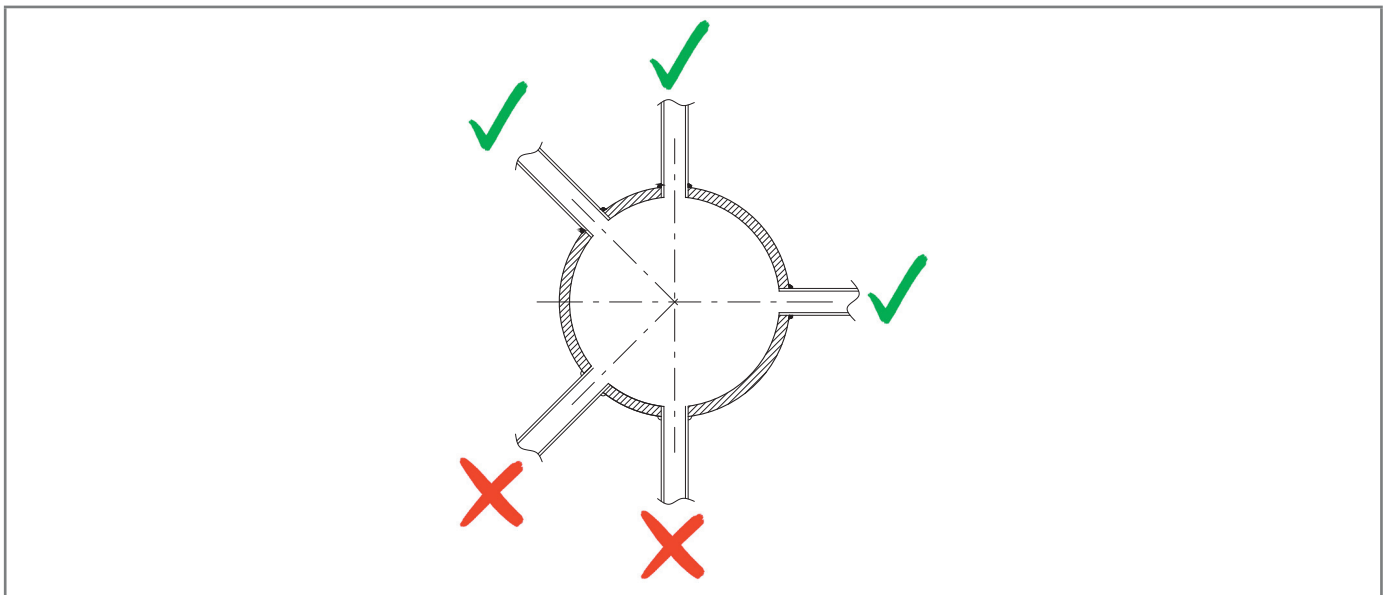

Fig. 6.9. Welded pipe connections
- the connections of the pneumatic connection are always welded to the top or horizontal axis of the pipe itself (refer to Fig. 6.9);